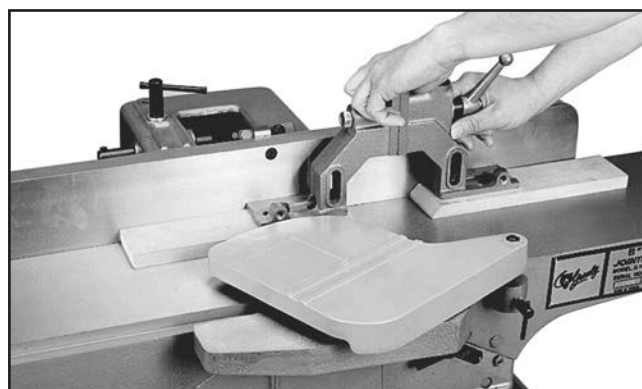

Figure 55. Resurfacing fences on jointer.
3. If fences are not coplanar with each other, remove both fences and resurface as one unit. You can perform this operation on a jointer, as shown in **Figure 55**.